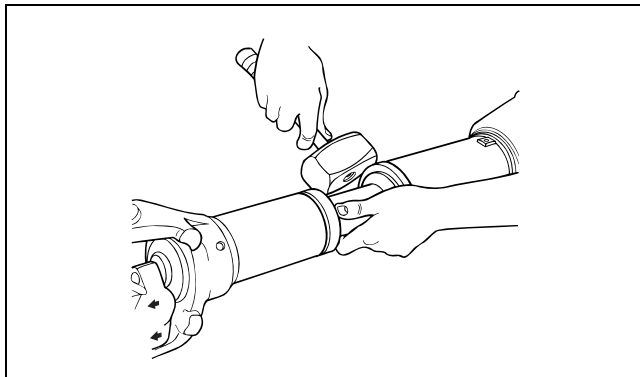
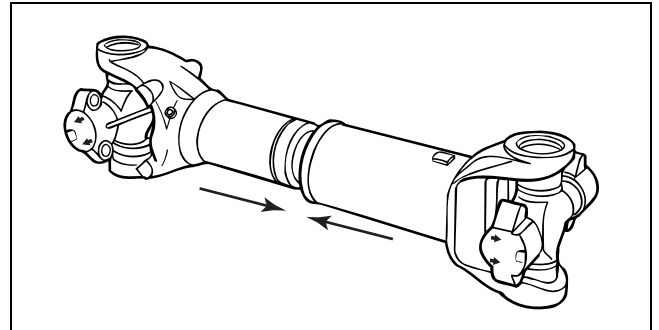

Figure 4.25
Figure 4.26
9. Use a brass or copper hammer to tap the shroud over the seal. Push together the driveline sections. Figure 4.25 and Figure 4.26.